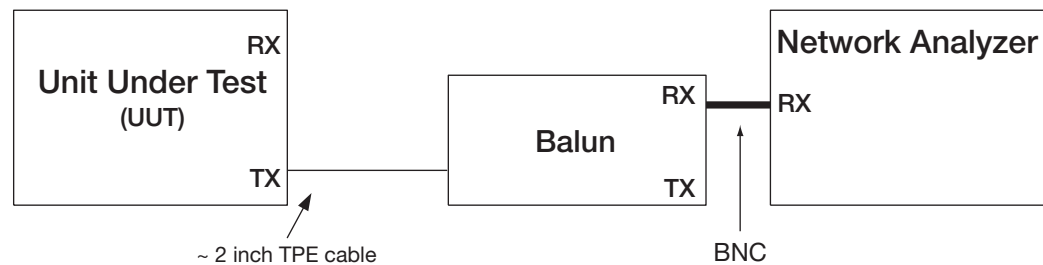

Figure 19-1 Test Setup for 10Base-T TD Circuit Impedance (Transmitter Return Loss)
1. Insert CAT 5 cable from the UUT into transmitter side of Balun fixture and connect Balun to Network Analyzer with BNC cable as shown in Figure 19-1.